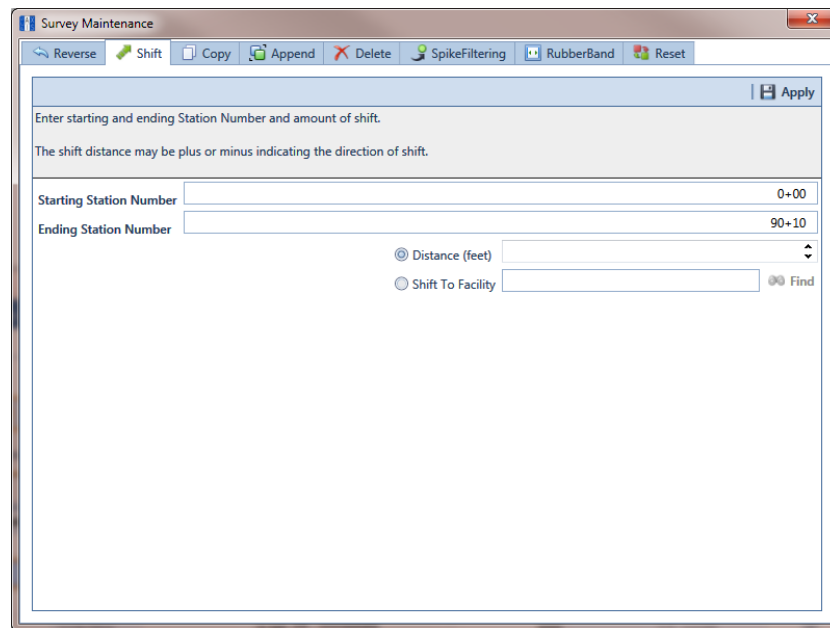

Figure 7-64. Shift Station Numbers
- Click  **Survey Maintenance** to open the *Survey Maintenance* dialog box. Then click  **Shift** (Figure 7-64).